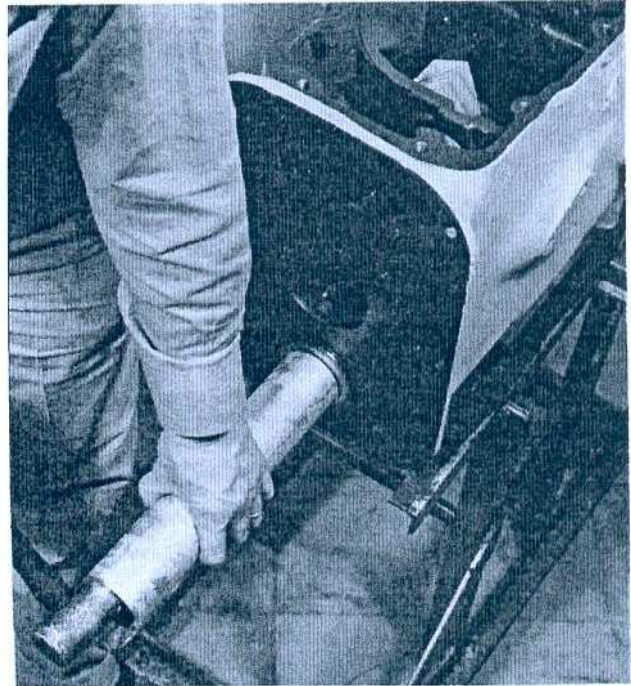

Fig. 12 - Install Rear Bearing on Countershaft
- d. Start rear bearing on shaft, place a block of wood against front end of shaft, then, with a suitable tool (such as a piece of pipe), tap bearing into place on shaft, as shown in Fig. 12. Secure with snap ring.